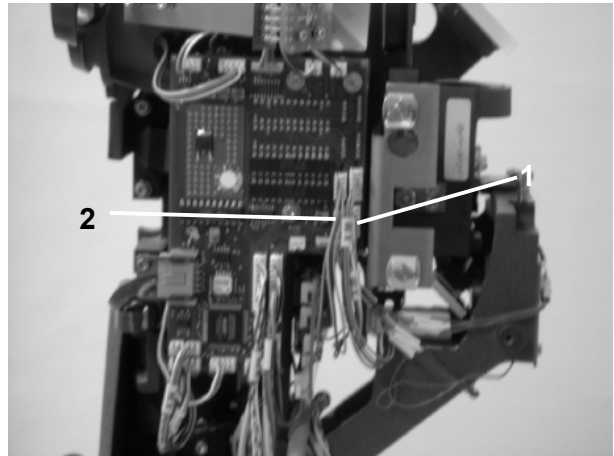
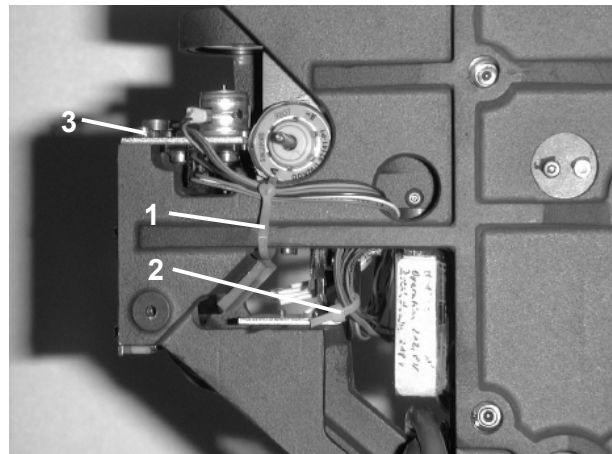

Fig. 31
Fig. 32
- Disconnect plug-in connections ((1 and 2) Fig. 31).
- Cut open cable ties ((1 and 2) Fig. 32) .
- Unscrew screws ((3) Fig. 32) and carefully remove the aperture assembly. Make sure not to damage the aperture wing plate.
- Carefully insert the aperture assembly and fasten it loosely with screws ((3) Fig. 32).
- Re-establish the plug-in connections ((1 and 2) Fig. 31) and attach cable ties ((1 and 2) Fig. 32).
- Tighten screws ((3) Fig. 32).